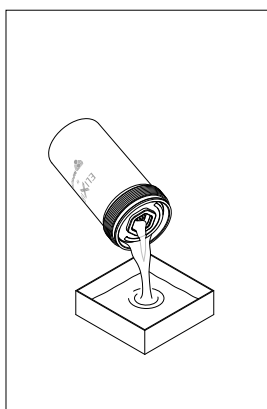

fig. 13
- (Fig. 13) Empty the operating fluid from the bowl into a collection vessel